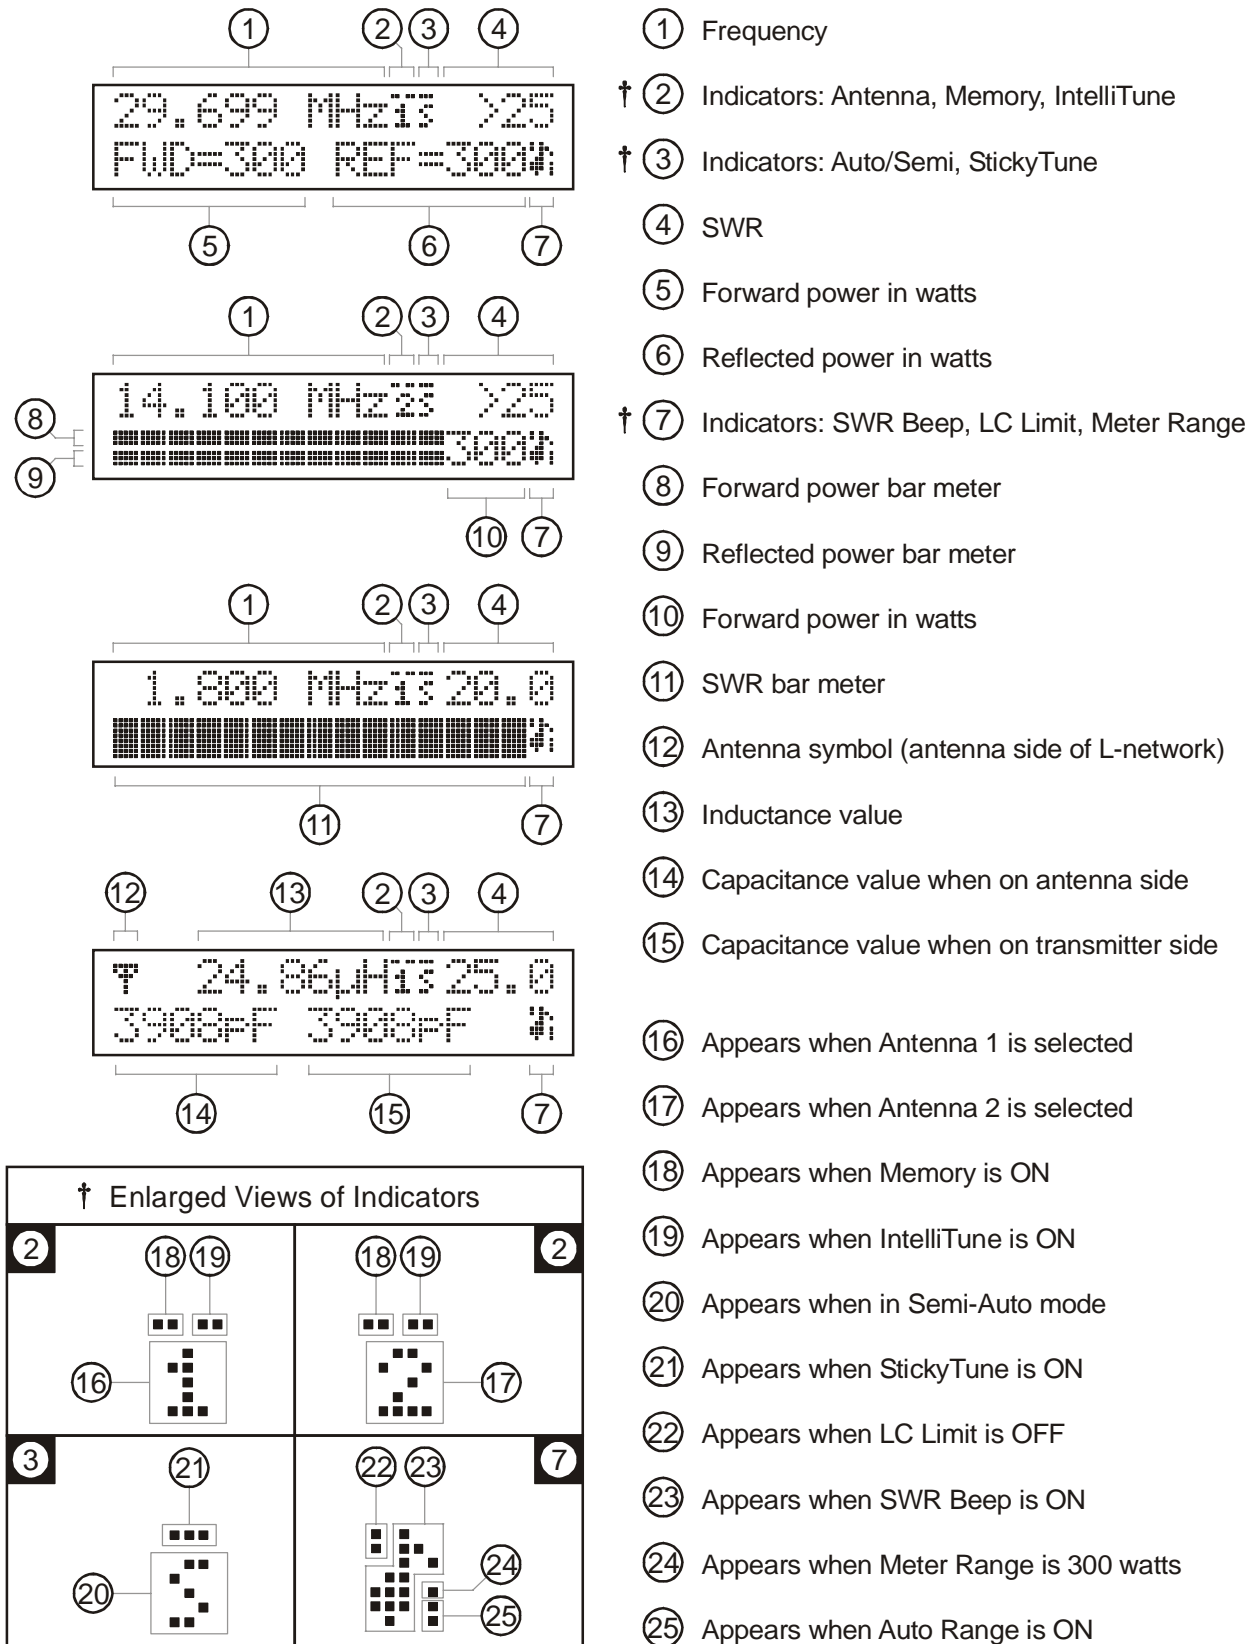

Figure 10. Main Mode Menu Display.
- LCD Display:** A 2-line by 16-character alphanumeric display. It displays the tuner’s various menus and status. The display contrast can be adjusted by the [LCD] control on the front panel. Below the display are the SWR and power bar meter scales. Refer to Figure 10 for descriptions of the various displayed information.
To toggle between the high and low meter ranges, press the [TUNE] and [L-DN] buttons simultaneously. The forward needle will read “300” for high range and “30” for low range until the buttons are released. On the main LCD screen, in the high range a small dot appears in the lower right corner of the screen. No dot appears in the low range. One beep indicates high range is selected; two beeps indicate low range is selected. Refer to Figure 10 for the on-screen Meter Range indicator.
The meter can be set to auto range. Auto range automatically sets the meter scales according to the input RF power to the tuner. Forward power greater than 30 watts or reflected power greater than six watts automatically sets the meter to the high power range. Forward power less than 25 watts and reflected power less than four watts automatically set the meter to the low power range. To toggle auto range on and off, press the [TUNE] and [C-DN] buttons simultaneously. The reflected needle will read “60” for auto range ON and “5” for auto range OFF. When auto range is on, a two-dot vertical segment appears in the lower right corner of the screen. One beep indicates auto range on and two beeps indicate off. Refer to Figure 10 for the on-screen Auto Range indicator.
Various tuner indicators are shown on the main menus to indicate tuner status. Refer to Figure 10 for locations of these indicators.
Allows you to select the meter scale range. In the 30 watts (low) range, the forward full scale is 30 watts and the reflected full scale is 6 watts (divide the meter reading by 10). In the 300 watts (high) range, the forward full scale is 300 watts and the reflected full scale is 60 watts. Auto range automatically sets the meter scales according to the input RF power to the tuner. Forward power greater than 30 watts or reflected power greater than six watts automatically sets the meter to the high power range. Forward power less than 25 watts and reflected power less than four watts automatically set the meter to the low power range. Refer to Figure 10 for the on-screen Meter Range indicators. Default is 300 watts range.
The memory resolution for non-amateur frequency bands between 160 and 10 meters is approximately one percent of the lower frequency of that band. There are over a thousand memory locations for each antenna. Tuner settings are stored in memory separately for Antenna 1 and Antenna 2 (settings for balanced line or single-wire antennas are stored as Antenna 1). Refer to Figure 10 for the on-screen Memory indicator. Default is ON.
Turns the IntelliTune™ tuning algorithm on and off. When the tuner cannot find an appropriate setting in its memory, it begins its calculation function. It measures the complex impedance of the antenna (load) at that frequency, then it calculates the L/C components needed for a match. Then it fine-tunes the component values. If for any reason the tuner cannot calculate the load impedance, it proceeds to yet another method of calculation. If for any reason, this function can be turned off. Refer to Figure 10 for the on-screen IntelliTune™ indicator. Default is ON.
Turns the aural SWR meter on and off. The aural meter is a series of one to five beeps where one beep indicates SWR of 1.5 or less, two beeps indicate SWR of 1.6 to 2.0, three beeps indicate SWR of 2.1 to 2.5, four beeps indicate SWR of 2.6 to 3.0, and five beeps indicate SWR above 3.0. This functions independent of the acknowledgement beep setting. When ON, a musical note ♪ appears on the lower right corner of the main menus (refer to Figure 10). Default is OFF.
increased only to these limits. When a selected capacitance or inductance is higher than its allowed limit, and the frequency is changed, that selection is automatically reduced to the value of its limit. These limits are used to prevent matching of extreme load impedance outside the tuner's specification, which may result in excess voltage and/or current across the tuner's components. This setting is not stored in non-volatile memory and reverts back to the default when the tuner power is turned off. Refer to Figure 10 for the on-screen LC Limit indicator. Default is ON.